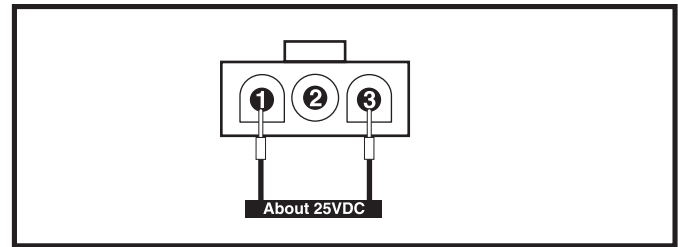

Figure 31. Connector 7b
24. Measure voltage across pin 1 and pin 3 on connector 7b. **See figure 31.**